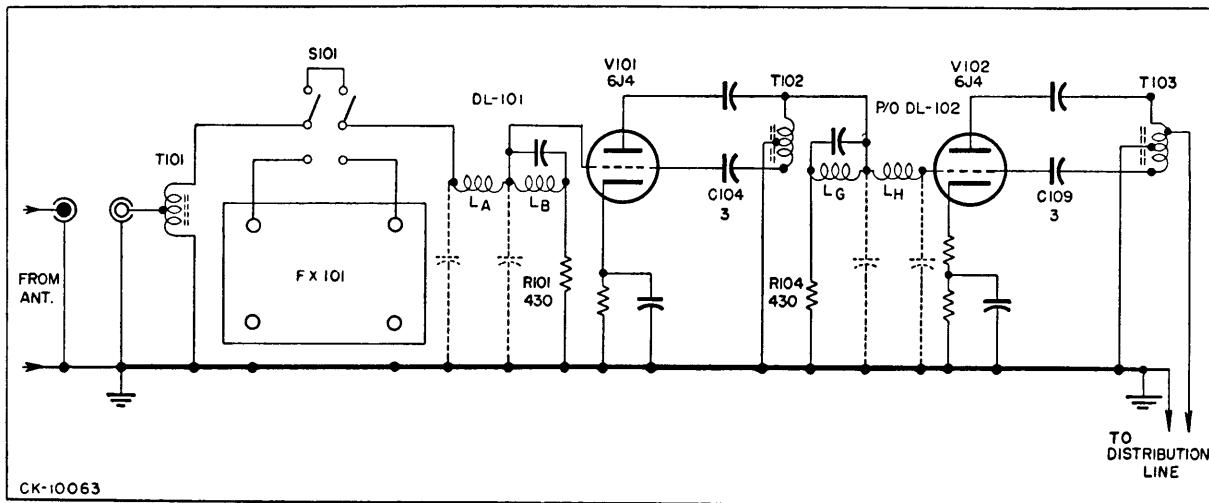

Figure 2-1. PRE-AMPLIFIER CIRCUIT
- a. The pre-amplifier is shown in Figure 2-1 and consists of two neutralized amplifier stages in cascade. Both stages employ the 6J4 triode tube in order to maintain a good noise figure.